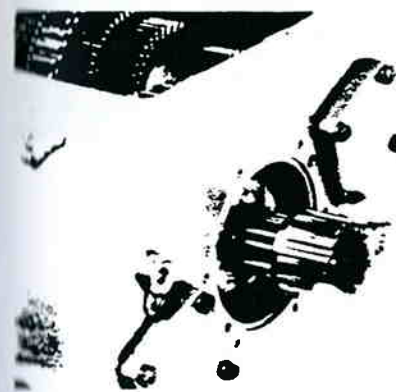

Figure 13-152. Installing Coupling Gear.
1. Install the coupling gear on splines of mainshaft with the counterbore toward the front and keyway aligned with key in shaft (figure 13-152).